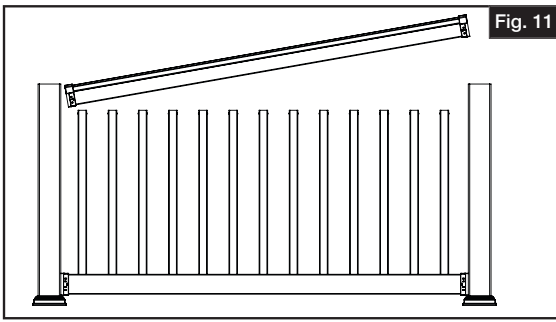

Fig. 11
- b. Begin at one side of rail and align first baluster with first routed hole on bottom side of top rail and snap top rail into position (Fig. 11).
- i. Make sure rails are fully seated with balusters and level and centered to post sleeve. Then, using $\frac{1}{8}$ " drill bit, pre-drill first top bracket screw hole (Fig. 11). Drill through bracket hole, vinyl post sleeve and vinyl insert and loosely install first #10 x $1\frac{1}{2}$ " screw.